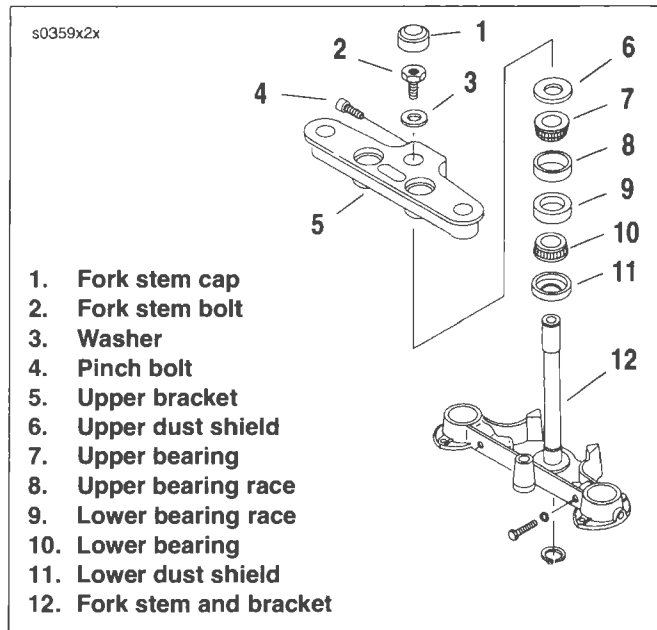

Figure 2-104. Steering Head: FLSTC, FLSTF, FLSTN
4. See Figure 2-104. Remove the brake hose bracket from the bottom of the fork stem and bracket (12).
5. Remove the fork stem cap (1). Loosen pinch bolt (4) and remove fork stem bolt (2). Remove washer (3) with the handlebar and upper bracket (5).
6. Remove the fork stem and bracket (12) from the steering head. Remove the upper dust shield (6).
7. Remove upper bearing (7).
1. See Figure 2-104. Insert the fork stem and bracket assembly (12) into the frame steering head. Install the upper bearing (7) and dust shield (6).
2. Install the upper bracket (5), a **new** washer (3), and fork stem bolt (2). Tighten the fork stem bolt until the bearings have no noticeable shake. Fork stem must turn freely from side to side.